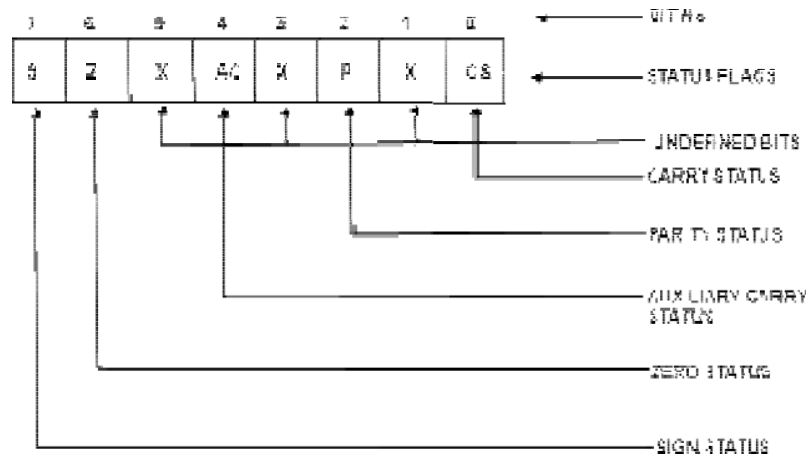

Figure 1.2.2 Flag Register
- In fig 1.2.2, five bits indicates the five status flags and three bits are undefined. “The combination of these 8-bits is called Program Status Word (PSW)”. PSW and the accumulator are treated as a 16-bit unit for stack operation.